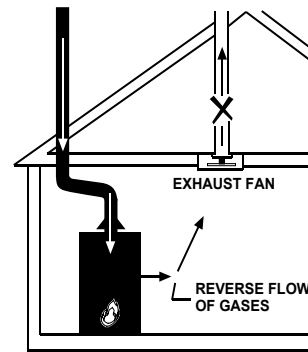

FIGURE 1C.
- Do not locate the water heater near an air-moving device. The operation of air-moving devices such as exhaust fans, ventilation systems, clothes dryers, fireplaces, etc., can affect the proper operation of the water heater. Special attention must be given to conditions these devices may create. Flow reversal of flue gases may cause an increase of carbon monoxide inside of the dwelling (Figure 1C).